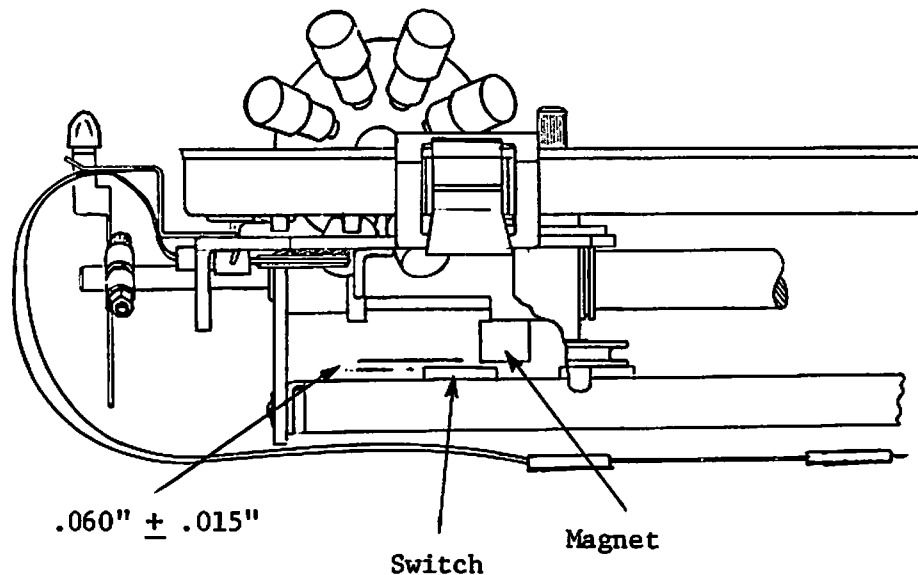

FIGURE 5-15 REED SWITCH MAGNET
5.3.8 REED SWITCH MAGNET (Figure 5-15)